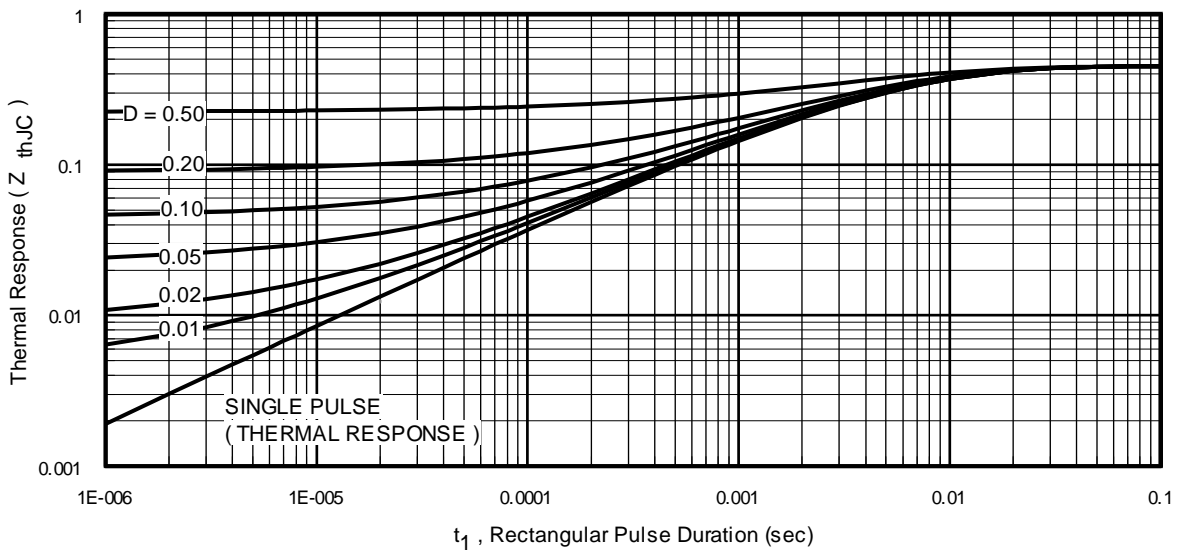
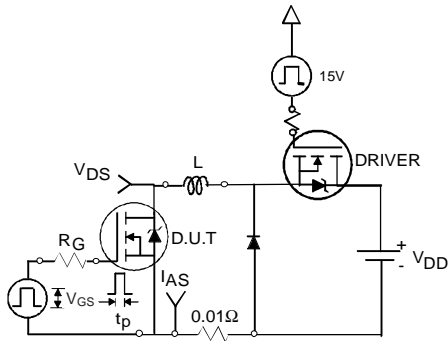

Fig 11. Maximum Effective Transient Thermal Impedance, Junction-to-Case
Fig 12a. Unclamped Inductive Test Circuit
- ① Repetitive rating; pulse width limited by max. junction temperature. (See fig. 11).
- ② Limited by T_{Jmax}, starting T_J = 25°C, L=0.24mH, R_G = 25Ω, I_{AS} = 75A, V_{GS} = 10V. Part not recommended for use above this value.
- ③ I_{SD} ≤ 75A, di/dt ≤ 220A/μs, V_{DD} ≤ V_{(BR)DSS}, T_J ≤ 175°C.
- ④ Pulse width ≤ 1.0ms; duty cycle ≤ 2%.
- ⑤ C_{oss eff.} is a fixed capacitance that gives the same charging time as C_{oss} while V_{DS} is rising from 0 to 80% V_{DSS}.
- ⑥ Limited by T_{Jmax}, see Fig.12a, 12b, 15, 16 for typical repetitive avalanche performance.
- ⑦ This value determined from sample failure population. 100% tested to this value in production.
- ⑧ This is applied to D²Pak, when mounted on 1" square PCB (FR-4 or G-10 Material). For recommended footprint and soldering techniques refer to application note #AN-994.
- ⑨ Max R_{DS(on)} for D²Pak and TO-262 (SMD) devices.
3. Equation below based on circuit and waveforms shown in Figures 12a, 12b.
$Z_{thJC}(D, t_{av})$ = Transient thermal resistance, see figure 11)